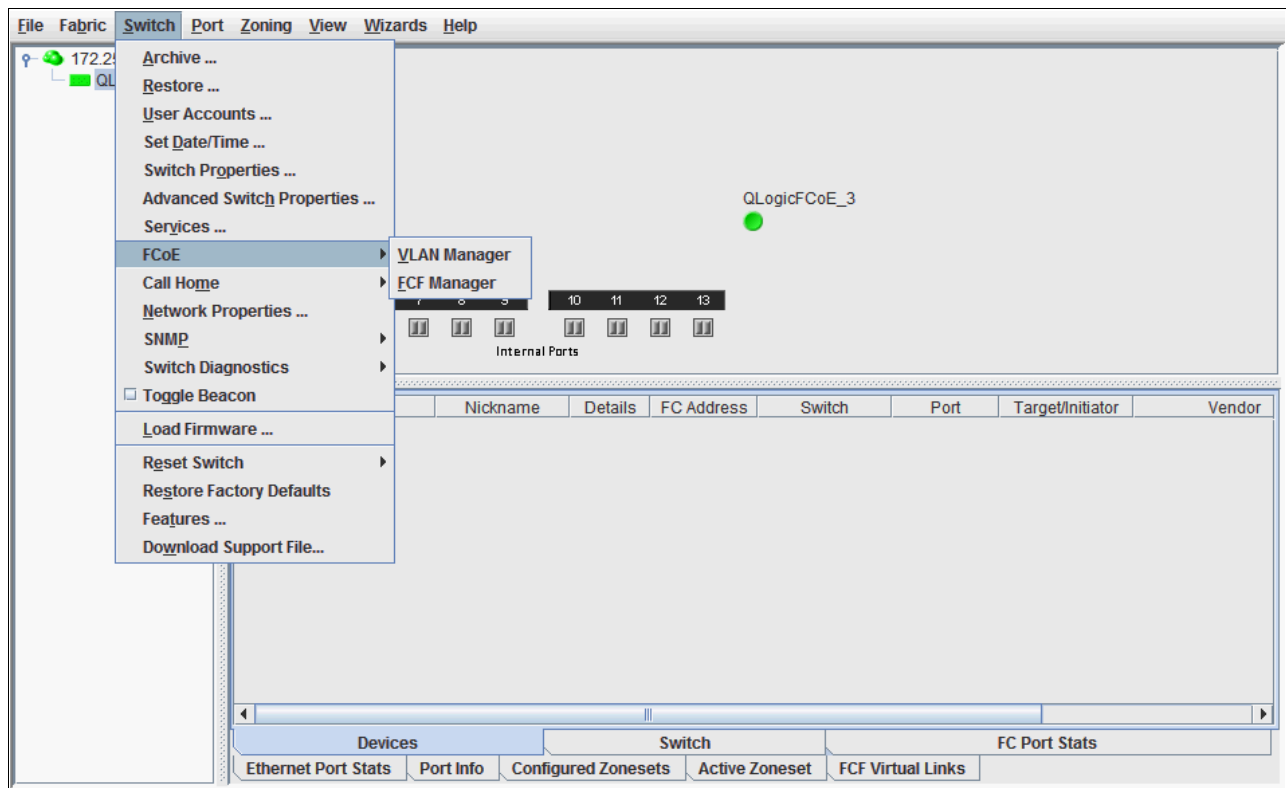

Figure 10-3 Virtual Fabric Extension Module GUI
2. To access the VLAN Manager, select **Switch** → **FCoE** → **VLAN Manager** (Figure 10-3).
4. Select **Switch** → **FCoE** → **FCF Manager** (Figure 10-3 on page 452).